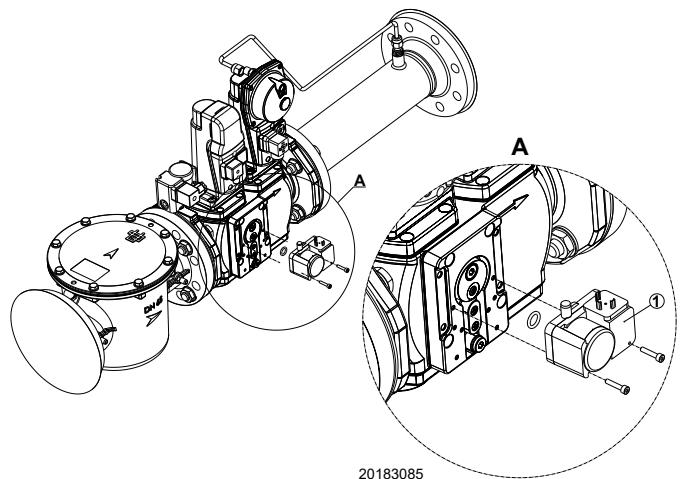

Fig. 17
Install the gas pressure switch 1)(Fig. 17) supplied as equipment to activate the valve leak detection control device.
- The gas train must be connected to the gas attachment 1)(Fig. 17) with the flange 2), the gasket 3) and the screws 4) supplied with the burner.